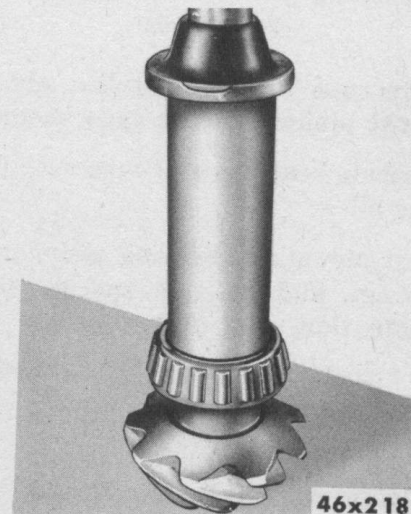
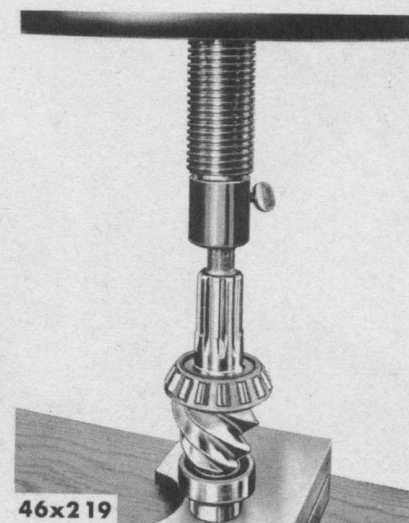

Fig. 52—Installing Pinion Inner Bearing, Tools DD-955, DD-956 or DD-957
Fig. 53—Installing Rear Pinion Bearing Pilot—Tool DD-950
- (1) Press drive pinion inner bearing (Fig. 52) and rear bearing pilot (Fig. 53) firmly against the pinion shoulders.
- (2) Install radial bearing lock ring and squeeze ring into pinion shaft groove with pliers.